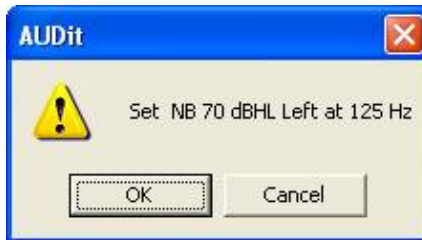

FIGURE 13-6 Set Level and Frequency Dialog Box
Click the **Measure All** button to perform a narrow band (NB) level test using the speakers. Since narrow band modulation is required for this test, you will also be prompted to select a NB test signal (FIGURE 13-6).